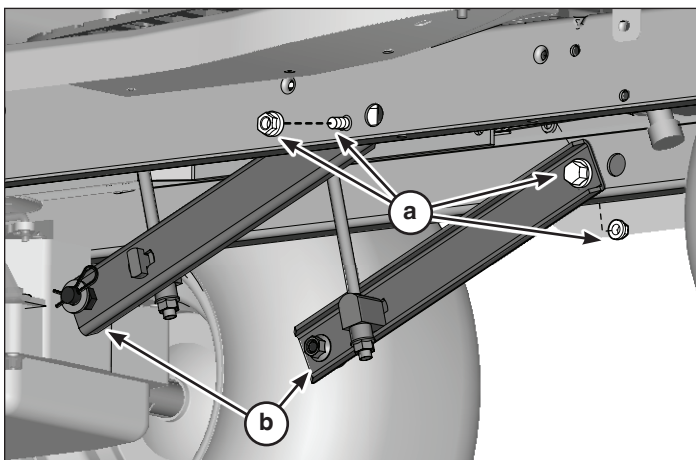

Figure 1
1. Remove the nuts and bolts (a, Figure 1) on existing right and left mower lift arms (b). Retain nuts and bolts for Step 2.